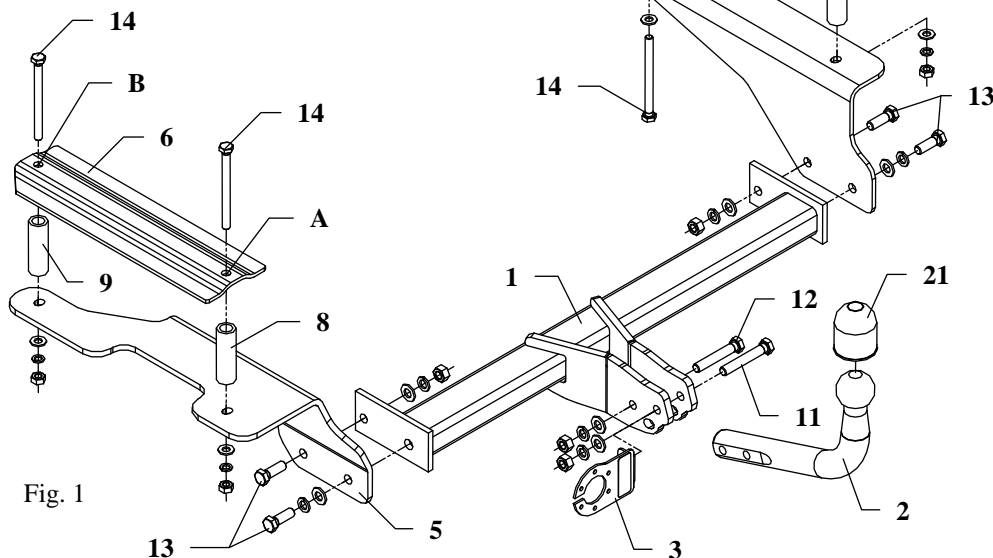
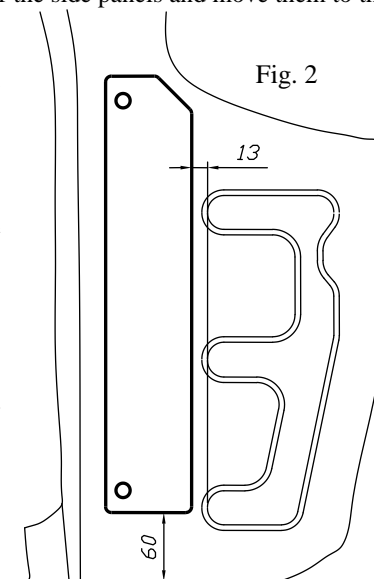

Fig. 1
Fig. 2
6. Place fish-plate (pos. 6) on the hole A.
7. Drill hole $\varnothing 11\text{mm}$ in point B through fish-plate (pos. 6) in the floor.
8. Place fish-plate (pos. 7) on the right side, as one showed on the fig. 2 and drill holes $\varnothing 11\text{mm}$ in points C and D. Make sure that the holes to be drilled match the holes on the underside of the chassis.
9. Remove fish-plates (pos. 6 and 7) and enlarge the holes from inside the boot only to $\varnothing 30\text{mm}$.
11. Place fish-plates (pos. 6 and 7) with three bolts M10x120mm (pos. 14) in combination with the distance sleeves (pos. 8, 9, 10) – see fig. 1.
12. Place left bracket (pos. 5) in points A and B and fix loosely.
13. Place right bracket (pos. 4) in points C and D with the fourth bolt M10x120mm (pos. 14) and fix loosely.
14. Fix the main bar of the towing hitch (pos. 1) using bolts M12x35mm (pos. 13).
15. Fix tow ball (pos. 2) using bolt M12x75mm (pos. 11) and M12x70mm (pos. 12). With bolt M12x75mm fix also a socket plate (pos. 3). See figure 1.